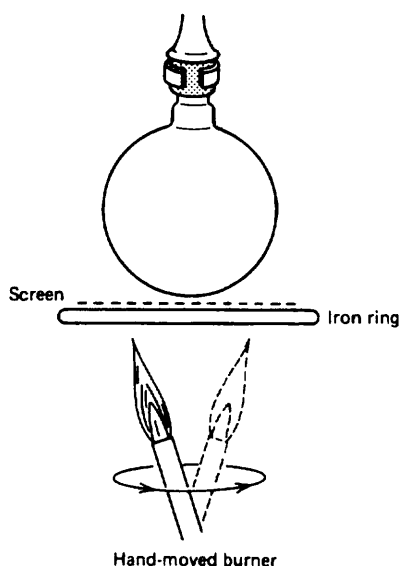

Fig. 81 Don't raise the flask, lower the burner.
2. When you set up the distillation or reflux, don't waste a lot of time *raising* and *lowering* the entire setup so that the burner will fit. This is nonsense. Move the burner! Tilt it! (Fig. 81). If you leave the burner motionless under the flask, you may scorch the compound and your precious product can become a "dark intractable material."